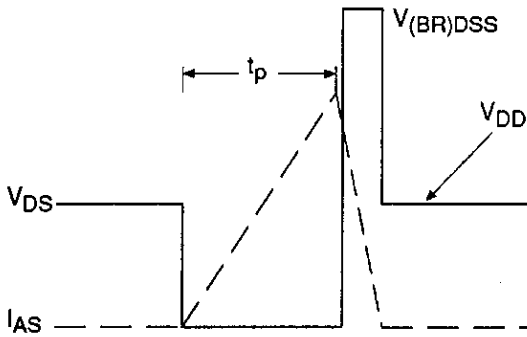

**Fig 11.** Maximum Effective Transient Thermal Impedance, Junction-to-Case
- ① Repetitive rating; pulse width limited by max. junction temperature (See Figure 11)